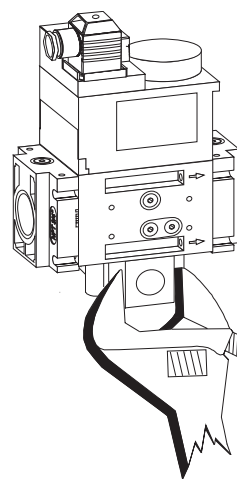

Figure 1
- Apply counter pressure when screwing the pipe into the Vent Line Adapter and while capping and sealing unused vent line connection (See fig. 1).